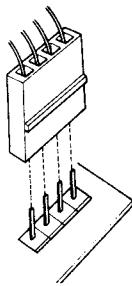

Fig. 2-5.
**Note:** Be careful with the position and the direction of the connectors when reinstalling them to the circuit boards. See Fig. 2-5.